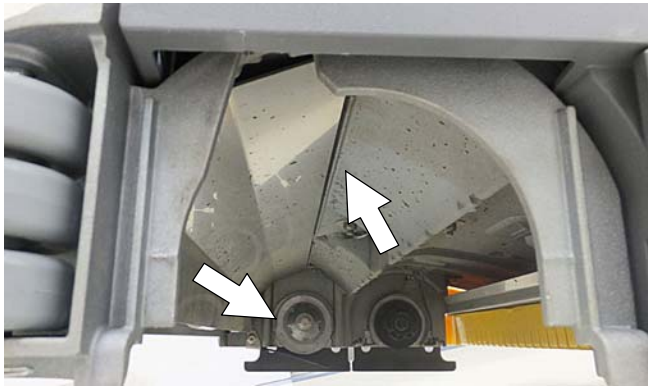

FIG. 124
- Cylindrical scrub head - Remove debris buildup from underside of scrub head, including the idler plates and drive hubs (Figure 124).